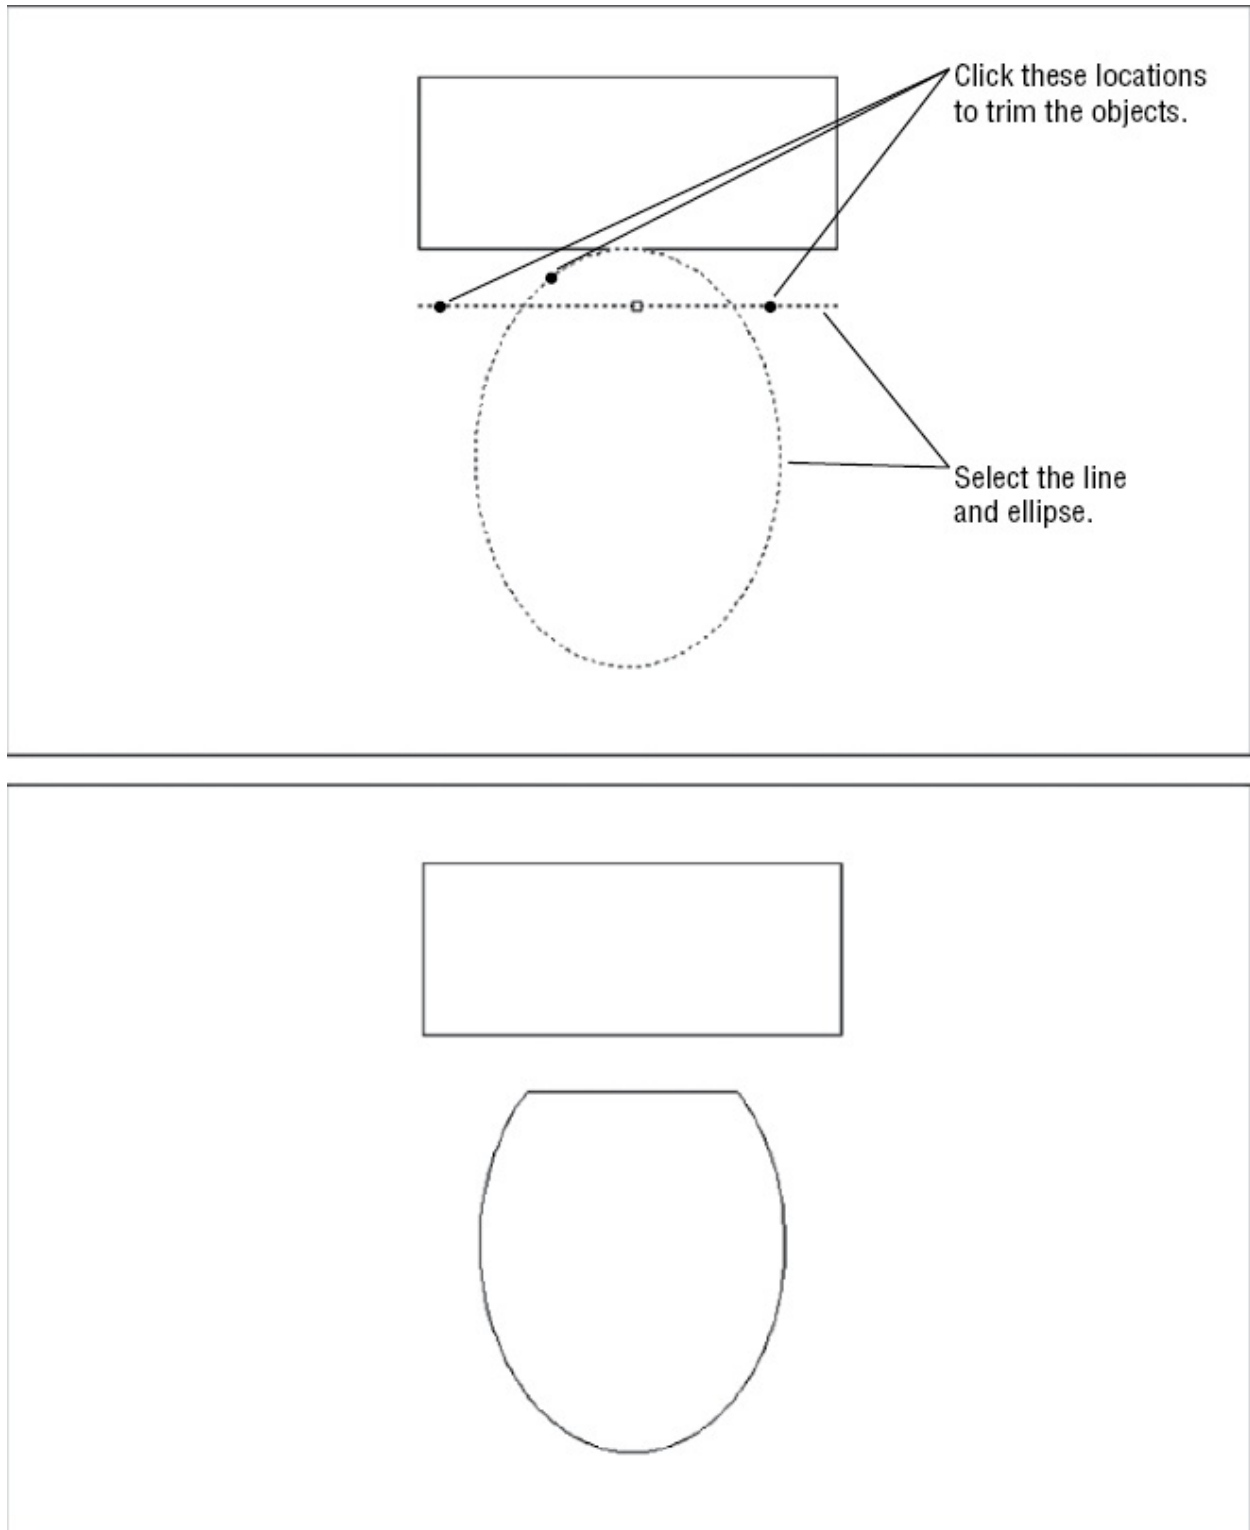

FIGURE 3.6 Trimming the ellipse and the line
3. At the **Select objects or <select all>:** prompt, click the ellipse and the line crossing the ellipse. (See the first image in Figure 3.6.)
7. Click the other end of the line. The right side of the line trims back to meet the ellipse. Your drawing should look like the second image in Figure 3.6.